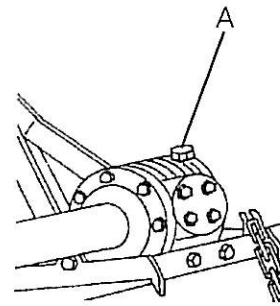

Fig. 3
2. The gearbox filled up to the level mark in the inside rod (A) (fig. 3). Capacity 1 l. Use SAE 90 oil.